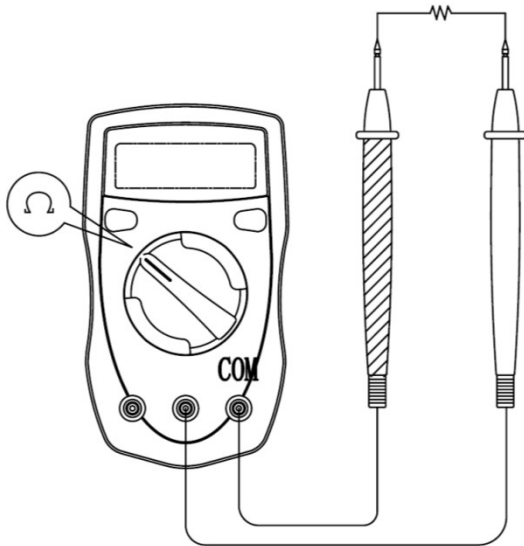

Fig. 1.3: Rotary switch positions for resistance measurements
- One of the Ω positions for resistance measurements (Fig. 1.3);